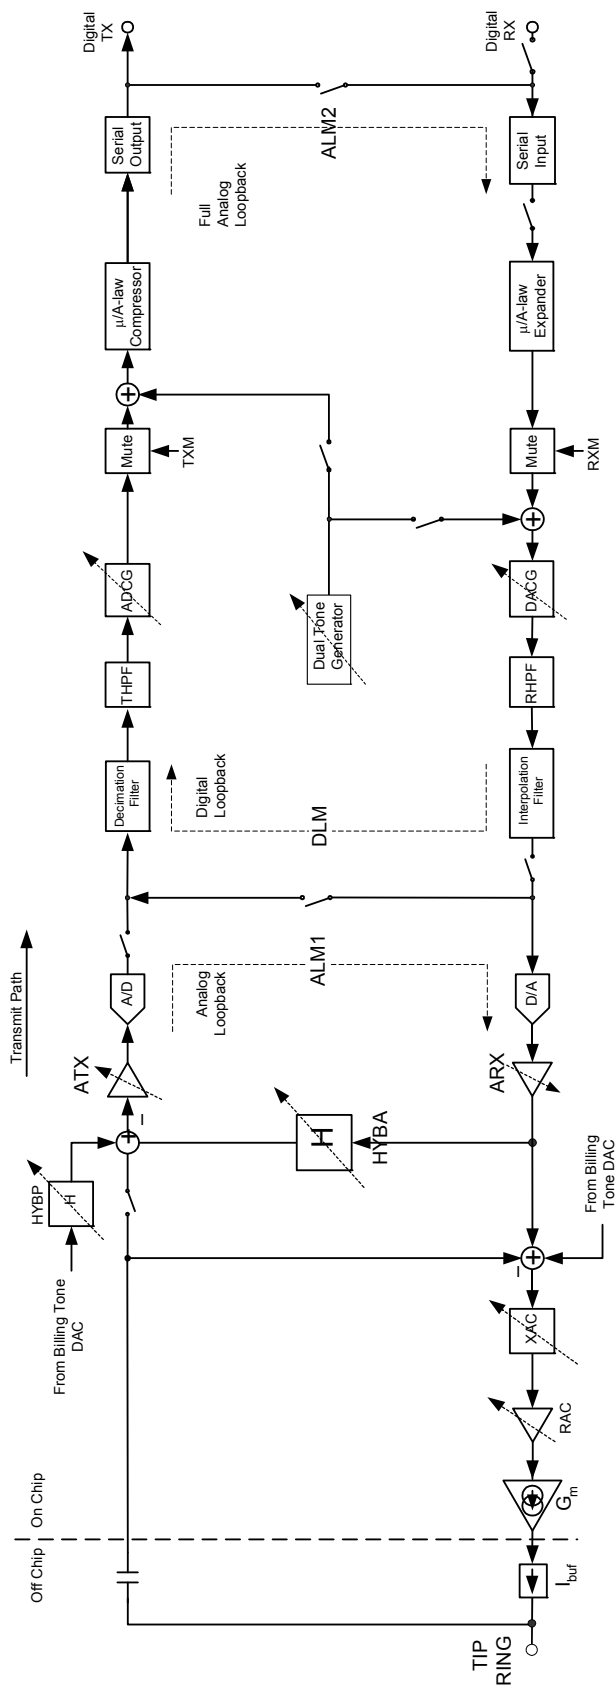

Figure 22. AC Signal Path Block Diagram
Unlike traditional SLICs, the codec function is integrated into the ProSLIC. The 16-bit codec offers programmable gain/attenuation blocks and several loop-back modes. The signal path block diagram is shown in Figure 22.
The block diagram for the voice-band signal processing paths are shown in Figure 22. Both the receive and the transmit paths employ the optimal combination of analog and digital signal processing to provide the maximum performance while, at the same time, offering sufficient flexibility to allow users to optimize for their particular application of the ProSLIC. All programmable signal-processing blocks are symbolically indicated in Figure 22 by a dashed arrow across them. The two-wire (TIP/RING) voice-band interface to the ProSLIC is implemented using a small number of external components. The receive path interface consists of a unity-gain current buffer, I_{BUF} , while the transmit path interface is simply an ac coupling capacitor. Signal paths, although implemented differentially, are shown as single-ended for simplicity.
The ProSLIC provides programmable transhybrid balance with gain block H. (See Figure 22.) In the ideal case where the synthesized SLIC impedance matches exactly the subscriber loop impedance, the transhybrid balance should be set to subtract a −6 dB level from the transmit path signal. The transhybrid balance gain can be adjusted from −2.77 dB to +4.08 dB around the ideal setting of −6 dB by programming the HYBA[2:0] bits of the Hybrid Control register (direct Register 11). Note that adjusting any of the analog or digital gain blocks will not require any modification of the transhybrid balance gain block, as the transhybrid gain is subtracted from the transmit path signal prior to any gain adjustment stages. The transhybrid balance can also be disabled, if desired, using the appropriate register setting.
- The full analog loopback (ALM2) tests almost all the circuitry of both the transmit and receive paths. The compressed 8-bit word transmit data stream is fed back serially to the input of the receive path expander. (See Figure 22.) The signal path starts with the analog signal at the input of the transmit path and ends with an analog signal at the output of
- An additional analog loopback (ALM1) takes the digital stream at the output of the A/D converter and feeds it back to the D/A converter. (See Figure 22.) The signal path starts with the analog signal at the input of the transmit path and ends with an analog signal at the output of the receive path. This loopback option allows the testing of the analog signal processing circuitry of the Si3215 completely independently of any activity in the DSP.
- The full digital loopback tests almost all the circuitry of both the transmit and receive paths. The analog signal at the output of the receive path is fed back to the input of the transmit path by way of the hybrid filter path. (See Figure 22.) The signal path starts with 8-bit PCM data input to the receive path and ends with 8-bit PCM data at the output of the transmit path. The user can bypass the companding process and interface directly to the 16-bit data.
Real and complex two-wire impedances are realized by internal feedback of a programmable amplifier (RAC) a switched capacitor network (XAC) and a transconductance amplifier (G_m). (See Figure 22.) RAC creates the real portion and XAC creates the imaginary portion of G_m 's input. G_m then creates a current that models the desired impedance value to the subscriber loop. The differential ac current is fed to the subscriber loop via the ITIPP and IRINGP pins through an off-chip current buffer (I_{BUF}), which is implemented using transistor Q1 and Q2 (see Figure on page 20). G_m is referenced to an off-chip resistor (R_{15}).